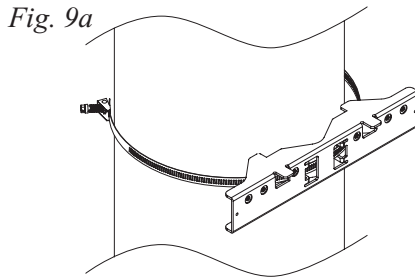
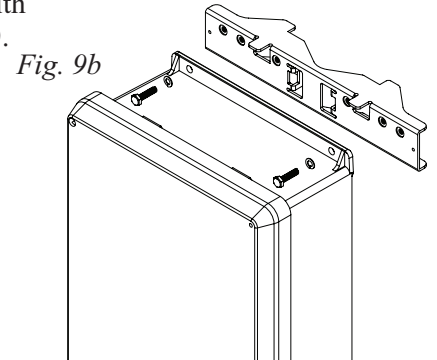

Fig. 9a
Fig. 9b
2. Once the desired height of the top Pole Mount bracket is achieved, tighten the straps down by sliding open end of the strap through the locking mechanism on the strap, then tighten the screw with flat head screwdriver or 5/16" hex socket driver (*Fig. 9a, pg. 9 and Fig. 9b, pg. 9*).
5. Mount enclosure onto the top bracket by inserting bolts through flange of the enclosure and into the bracket, tightening bolts with a 7/16" hex socket (*Fig. 9a, pg. 9*).